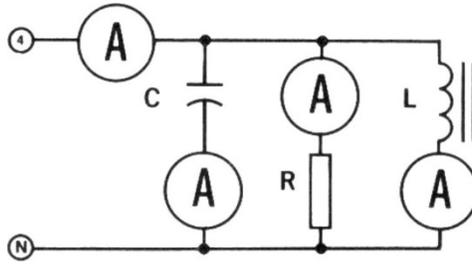

Figure 03-8.
- 4) Construct the circuit shown in Figure 03-8.